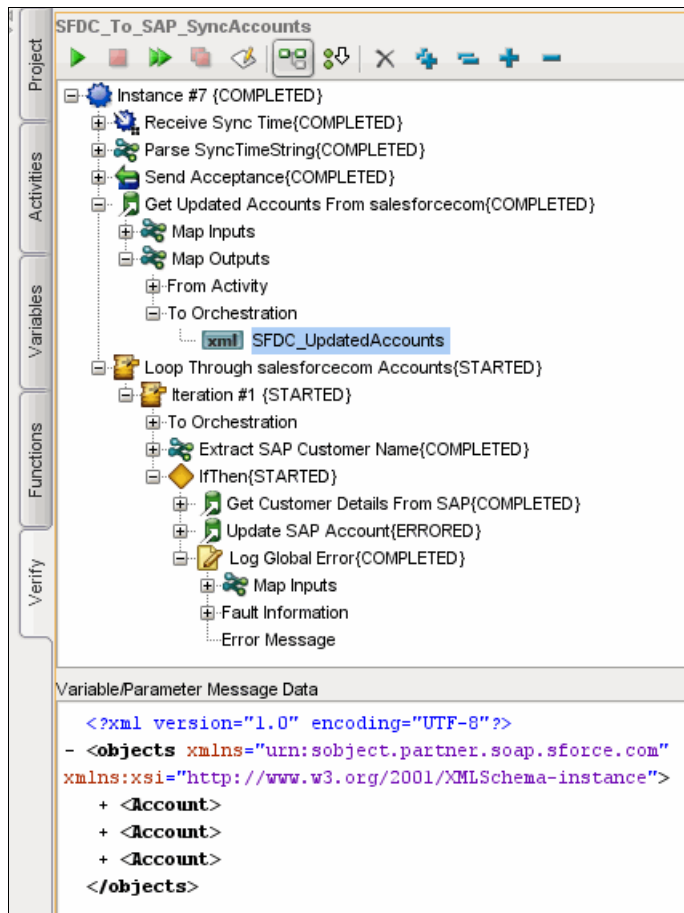

Figure 10-109 Test with failing SAP update but global catch
As an example, perform a test with a simulated SAP failure during SAP update. You can force this failure by removing the currency value from the mapping. Figure 10-109 shows the result. It shows that Salesforce.com returned three updated records. So the loop should have had three iterations. However, because the first one failed during the SAP update, the orchestration went into the global catch block, which then logged the error. Thus, no further updates were done.
2. On the Verify tab, expand the tree to show one loop iteration the Get Updated Accounts Map Output branch until you find the variable `SFDC_UpdatedAccounts`. Refer to Figure 10-109 on page 427.)